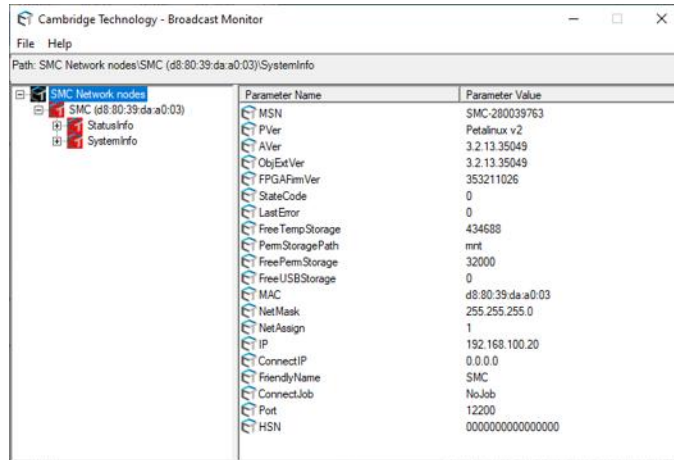

Figure 49: Example: Broadcast Monitor screen
- f. Confirm that the SMC is powered. This is detectable using the *Broadcast Monitor* software. A screen similar to that shown in Figure 49 on page 116 should be seen if the SMC is powered and connected correctly.